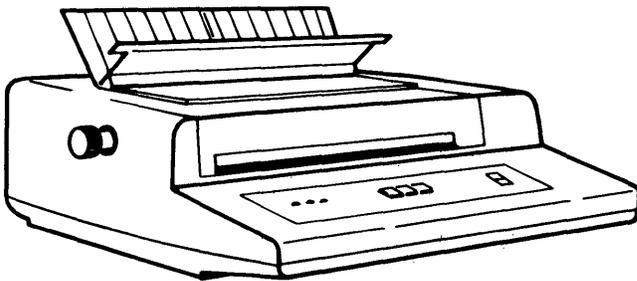

Figure 1-3. "Selectric" Element Printer
- The IBM "Selectric" Element Printer (Figure 1-3) is cable connected to the electronics module and can be used by only one work station. The printer's rated burst speed is up to 15.5 characters per second (CPS).